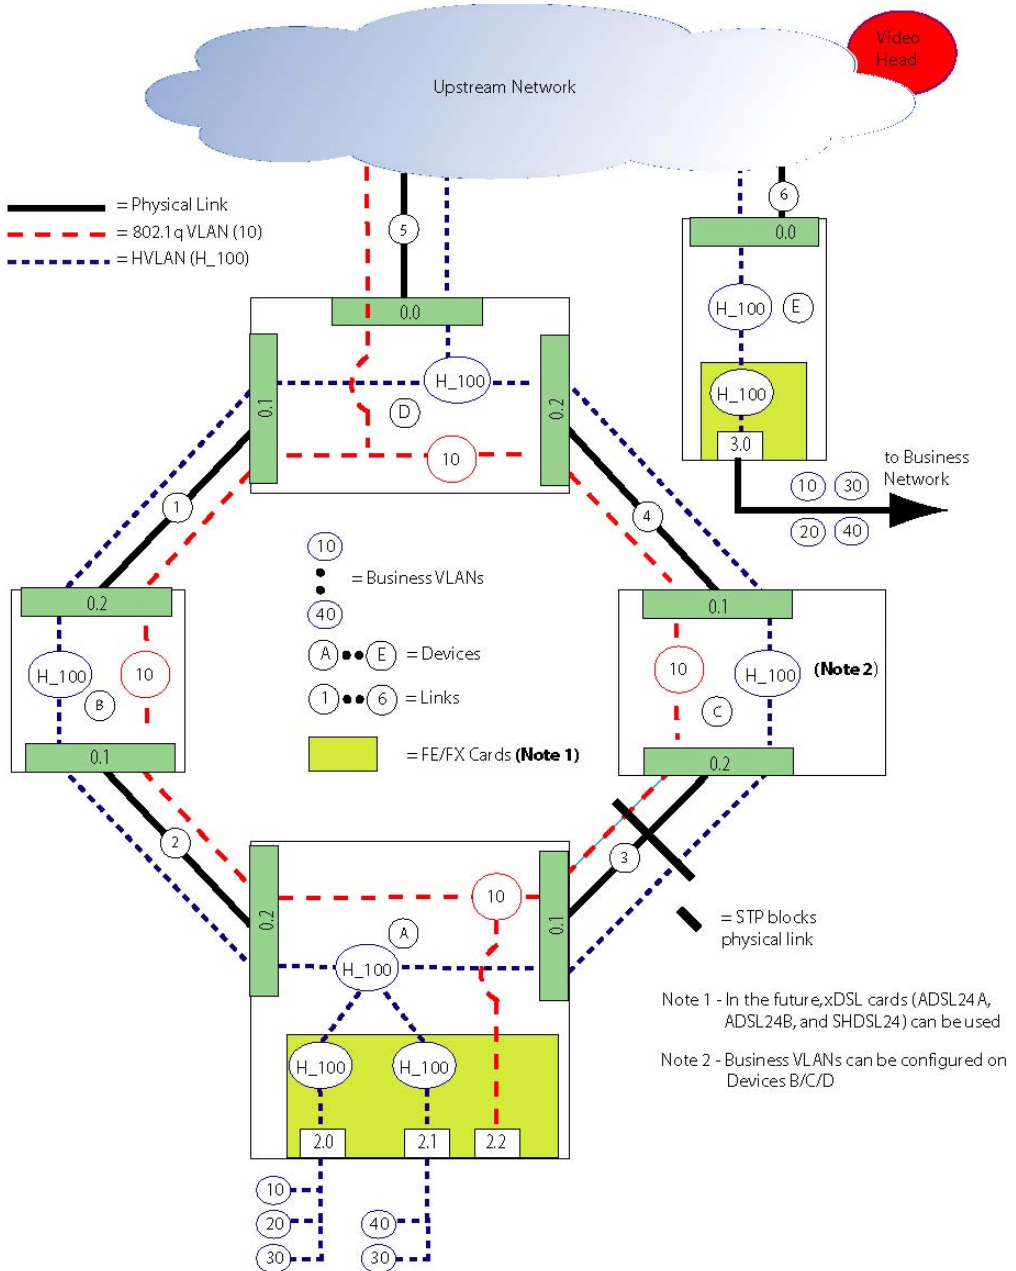

FIGURE 18-1 Port-based HVLAN Configuration for Release 6.0
Figure 18-1 shows a possible configuration where both 802.1q and HVLANs are created. The 802.1q VLAN (10), is used for multicasting for video. The HVLAN is provisioned for a business customer who has their own network and wishes to connect this network to devices on Telesyn systems.
For the configuration shown in Figure 18-1, each Allied Telesyn 9400 is configured as follows: